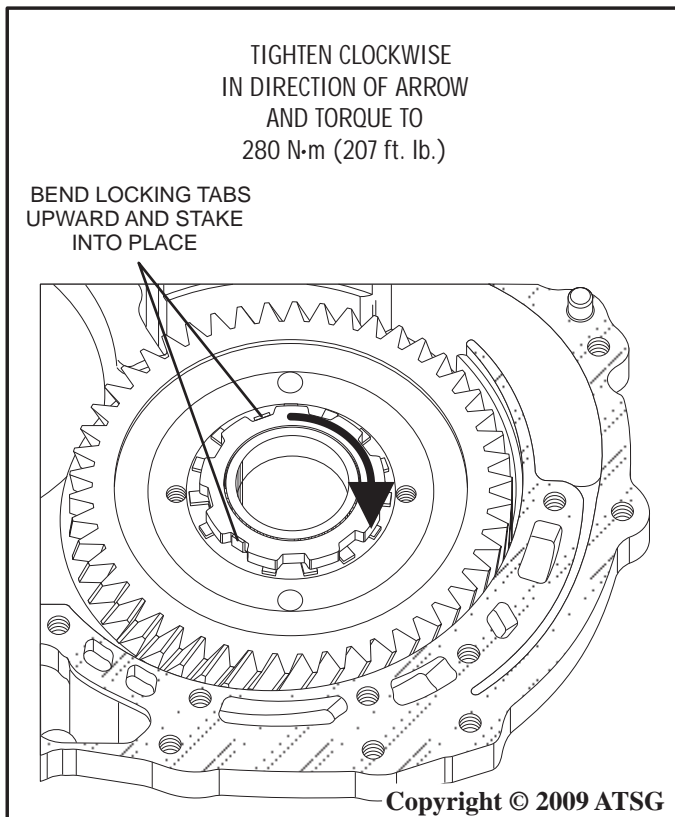

Figure 154
16. Use SST 09387-00030, 09387-00080 or other suitable socket and torque the retaining nut to **280 N·m (207 ft. lb.)** as shown in Figure 154.
17. Bend retaining nut locking tabs and stake them into place as shown in Figure 154.